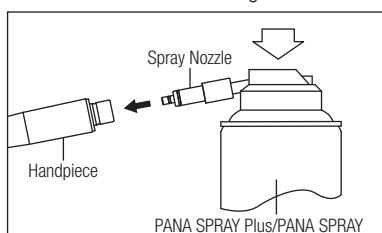

Fig. 12
- 4) Insert the Spray Nozzle in rear of the handpiece. Hold the handpiece and spray for approximately 2-3 seconds. Apply lubricant until it expels from the handpiece head for at least 2 seconds (Fig. 12).